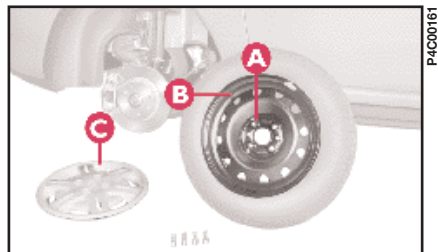

fig. 6
4) Fit the wheel cover (1.2 16V  blue version), making sure that slit **C** (fig. 6) corresponds with the inflation valve.